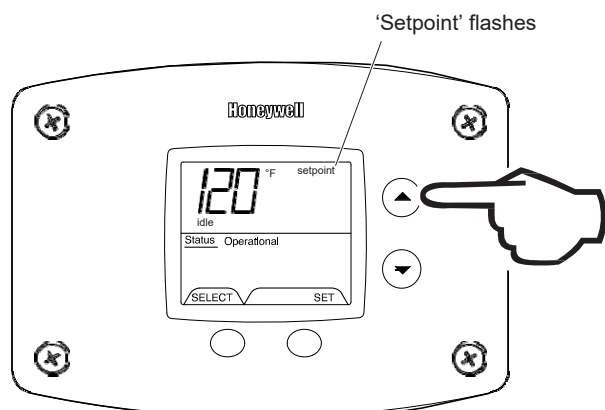

Fig. 62
3. To raise the temperature setpoint, press the 'Temperature Up' button until the desired temperature is shown on the water heater display (Fig. 62).